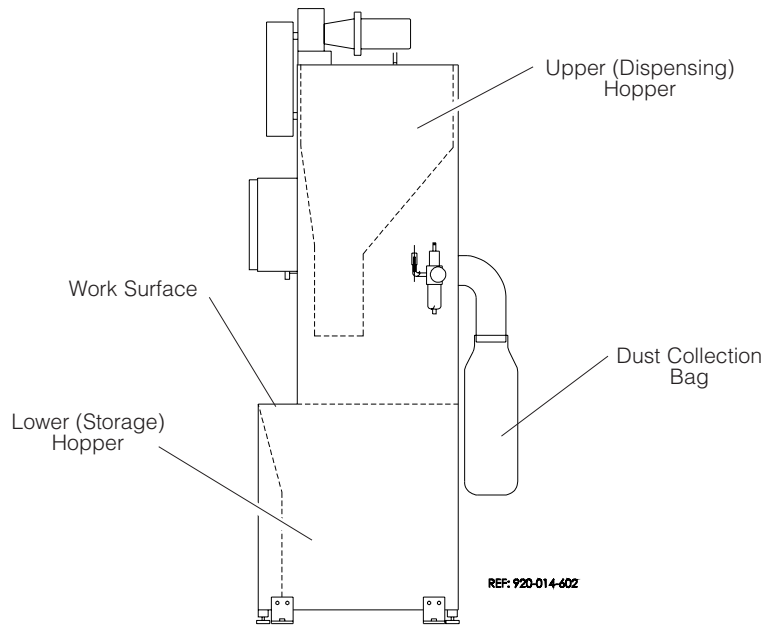

Figure 5-2. Verify Dust Collection Bag
2. Verify the dust collection bag at the back of the unit is in position (see Figure 5-2).